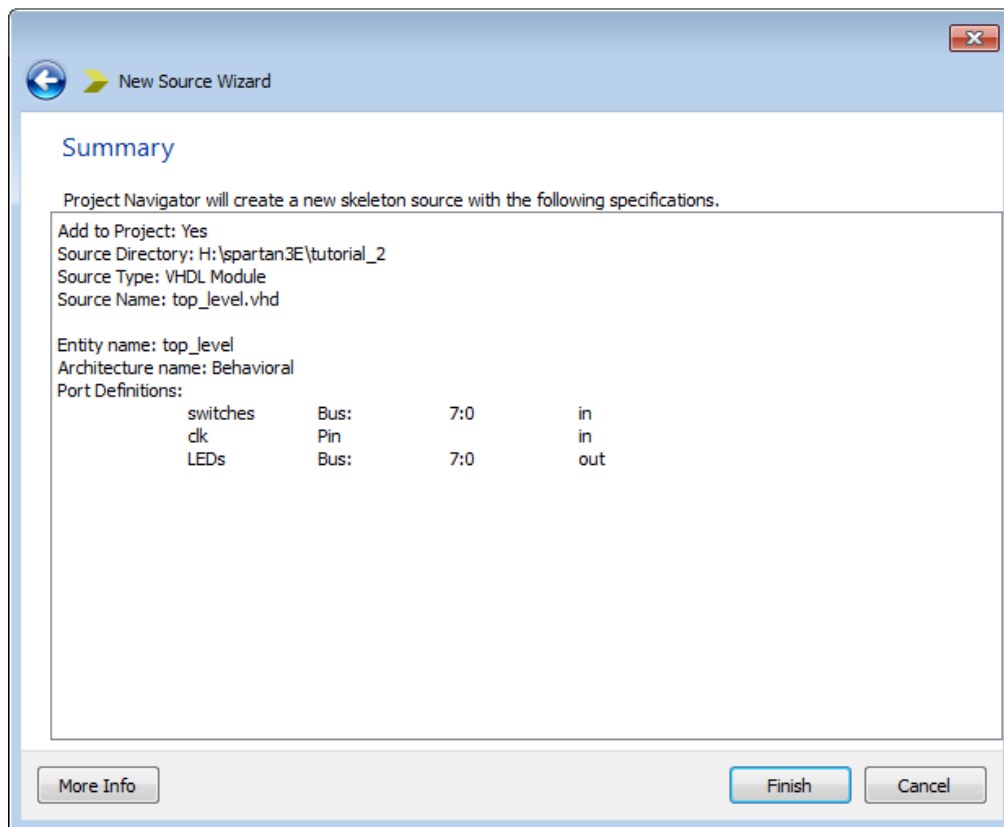

Figure 5.15: New Source Wizard, Summary.
7. Click **Next** to move to the **Summary** page, as shown in Figure 5.15.